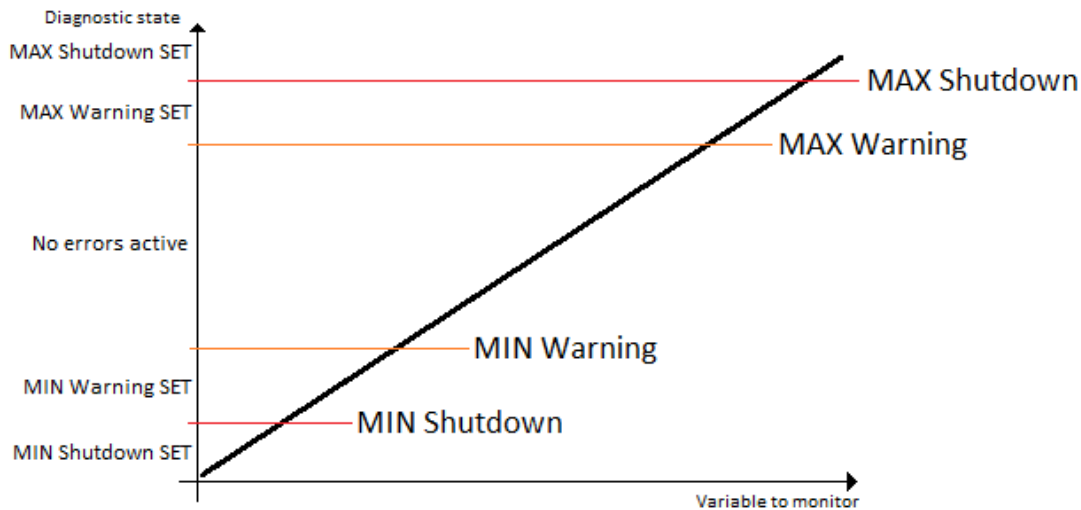

Figure 4. Double Minimum and Maximum Error Thresholds
**Double minimum and maximum errors** let the user specify four thresholds, each with independent diagnostic parameters. The diagnostic status and threshold values are determined and expected as show in Figure 4 below.